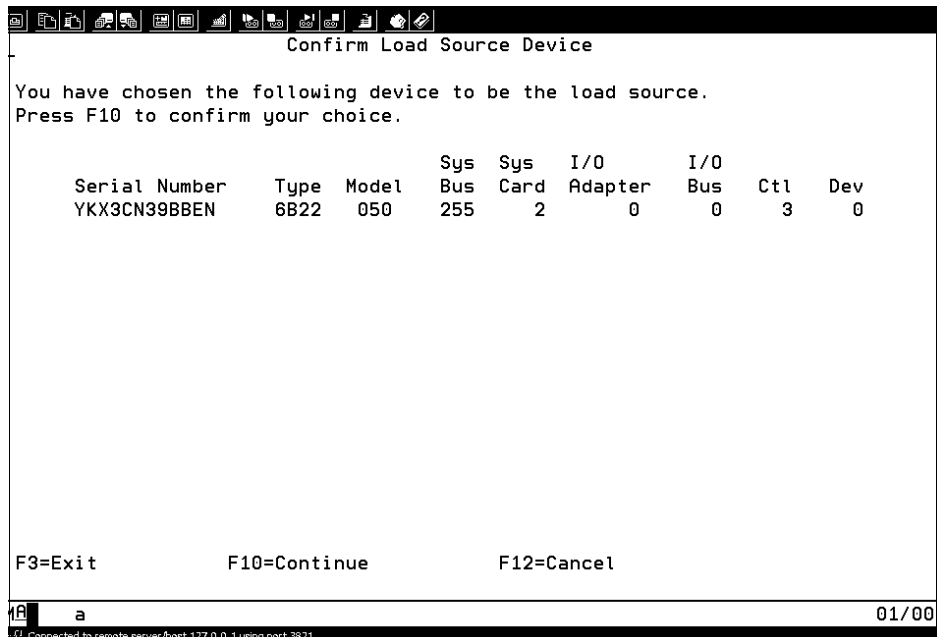

Figure 7-52 Confirm source device
7. Confirm the previous selection of the Load Source Device by pressing **F10**; see Figure 7-52 on page 297.